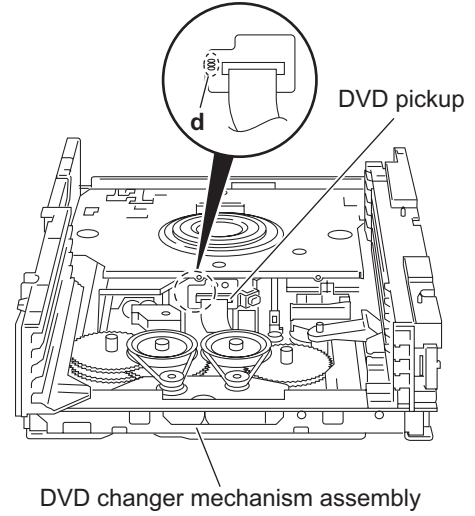

Fig.6
3.2.2 Removing the DVD servo board (See Figs.6 to 8)
- (1) From the topside of the DVD changer mechanism assembly, solder the short land sections **d** on the DVD pick up. (See Fig.6.)
Unsolder the solders from the short land sections **d** after reassembling. (See Fig.6.)